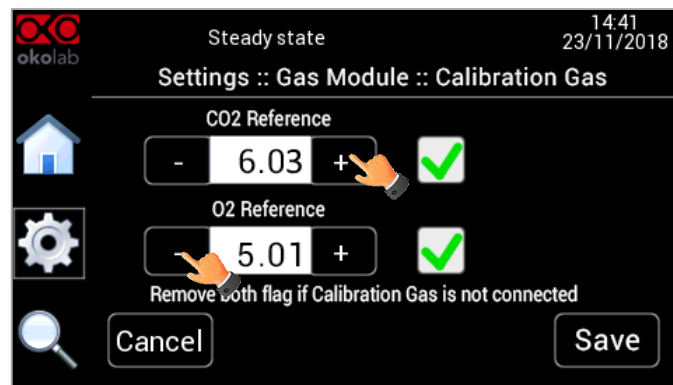

Figure 50 How to insert the CO2 and O2 reference values
6. Insert the CO2 and/or O2 reference value clicking on + and - as shown in Figure 50. Set here the values reported on Calibration Gas certificate.